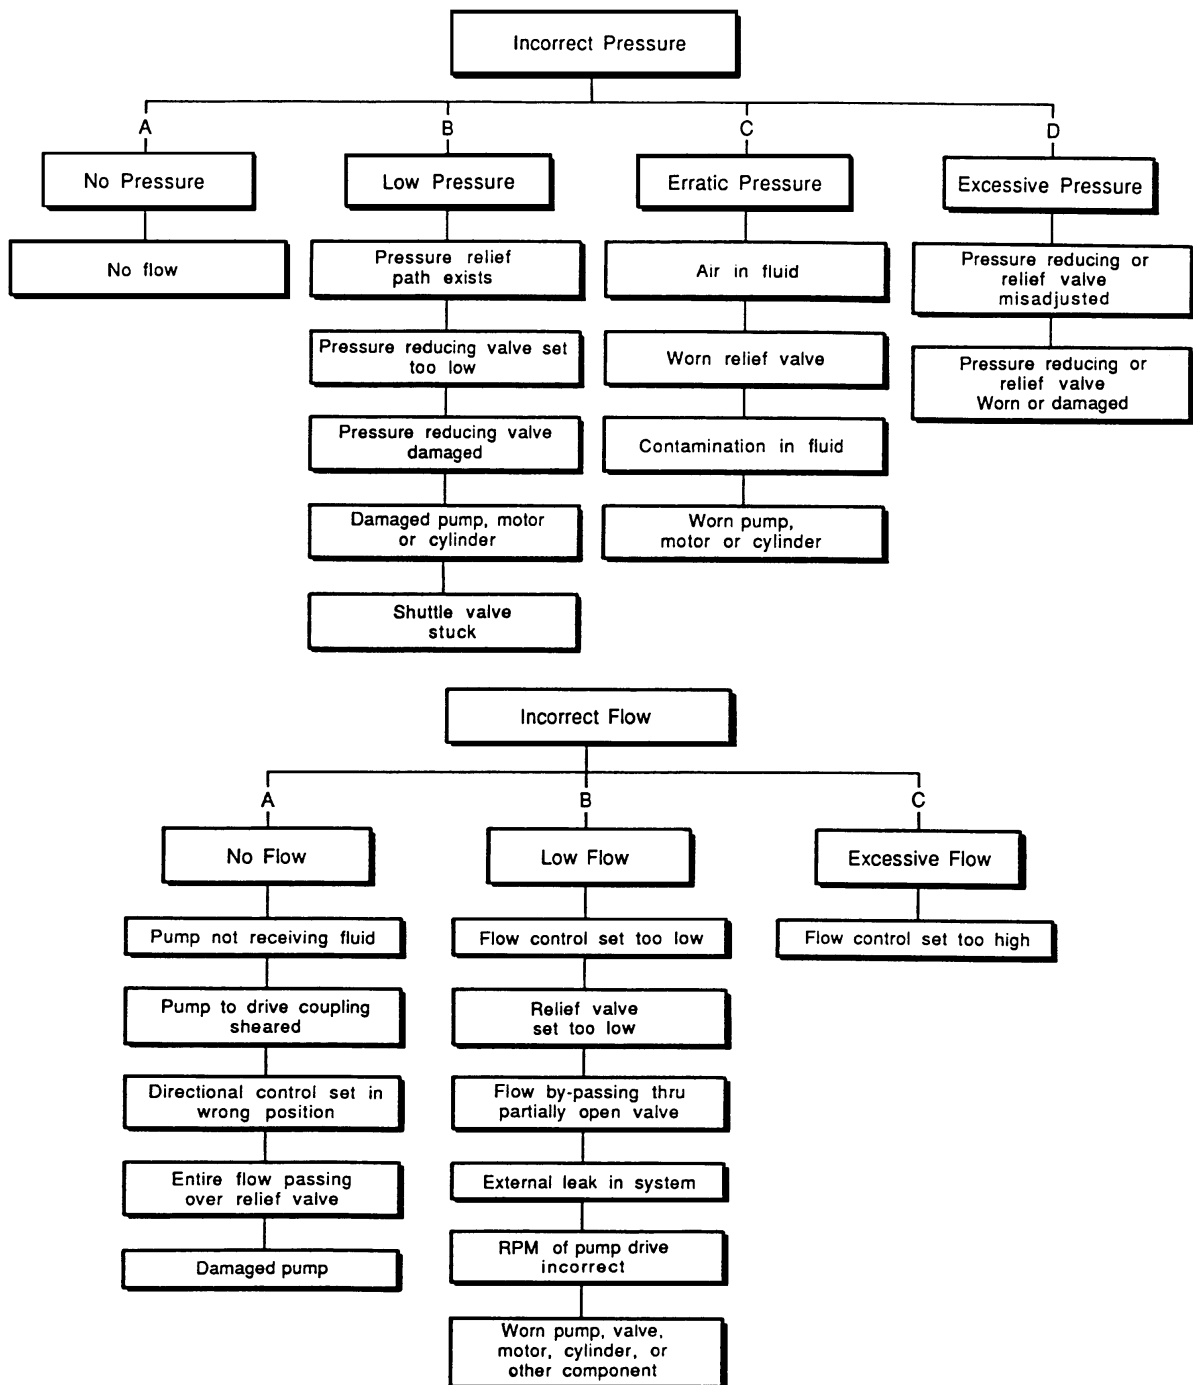

Figure 1
- D. Use the Hydraulic Troubleshooting Guide (Figure 1) to assist in locating the cause of a malfunction when incorrect pressure or incorrect flow has been determined.